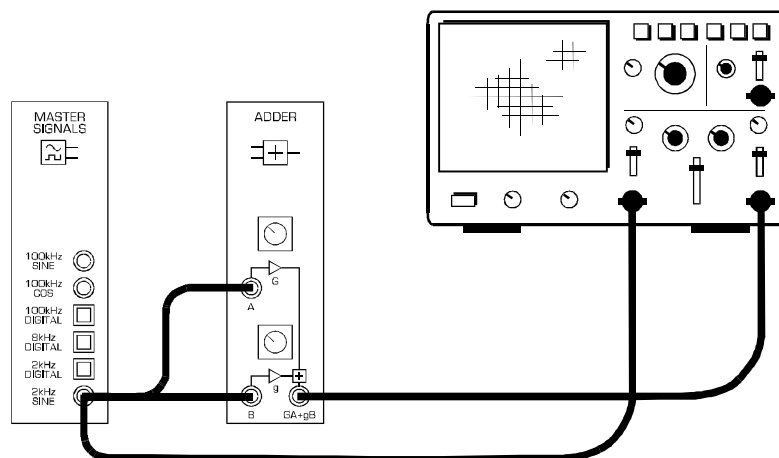

Figure 2
4. Connect the set-up shown in Figure 2 below.